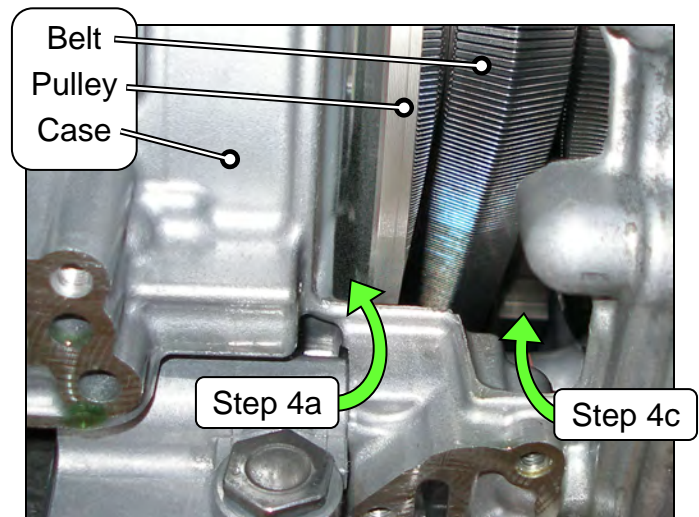

Figure 6
- a. Insert the camera lens between the CVT case and pulley where shown in Figure 6 and 7.
- Insert the lens approximately seven (7) inches, and then view the side of the belt that contacts the pulley.
- Insert the camera lens in the second location where shown in Figure 6 and 9, and then perform step 4b again.